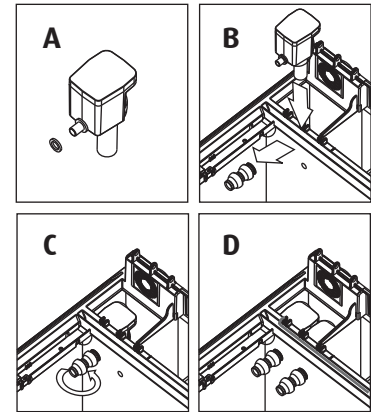

Figure 8: Installing the circulation pumps
2. Position the first pump in the filter media chamber with the intake pipe pointing down. Push the pump outlet through the left hole in the smoked glass wall (Fig. 8 A, B). Make sure the rubber shock absorber sits on the outlet.
3. Screw the 3-part adjustable outlet nozzle onto the threaded section of the pump outlet. Ensure that the two components are firmly attached to either side of the smoked glass wall (Fig.8 C)
4. Repeat steps 1-3 for the second pump, attaching it to the second nozzle through the remaining hole in the smoked glass wall (Fig 8 D)